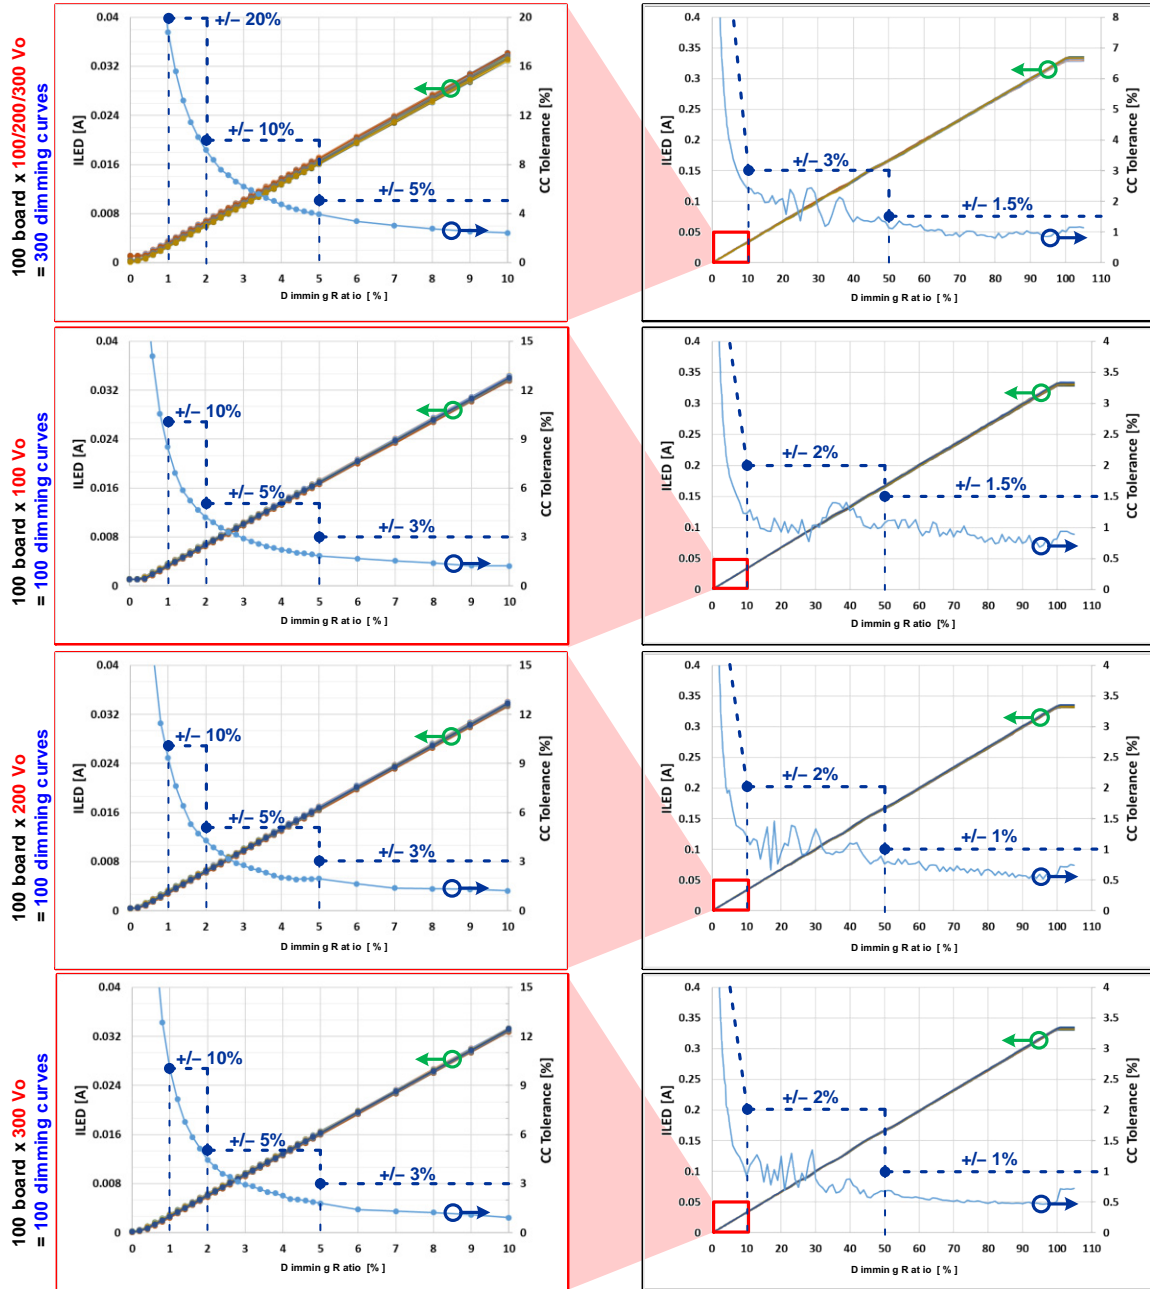

Figure 8. NCL30076LED1GEVB Dimming Curve and CC Tolerance
Figure 8. shows dimming curve linearity and Constant Current (CC) tolerance of 100 pcs system boards. The test condition is variable output voltage (100, 200, 300 V) in 400VDC input and dimming range is 100% to 0%. The dimming ratio is calculated by $(VDIM-0.2)/1.6 * 100$ [%].